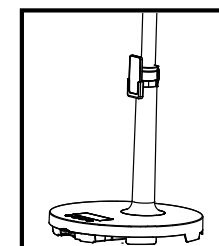

Figure 4
- When the remote control is not in use, it is recommended to place the remote control in the remote control frame (Figure 4).